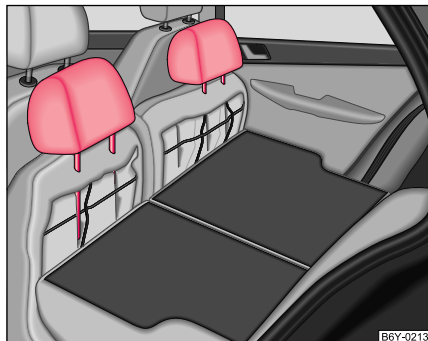

Fig. 50 Rear seats:
- The head restraints can be inserted into the relevant holes of the folded forwards rear seats ⇒ fig. 50.